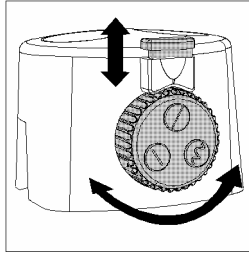

Fig. 5
- 1 Slide the lock for the trimmer's rotary cut selector upwards (Fig. 5).
- 2 Turn the selector knob until the symbol representing the required type of cut is under the lock (Fig. 5).
- 3 Press the lock for the trimmer's rotary cut selector downwards (Fig. 5).